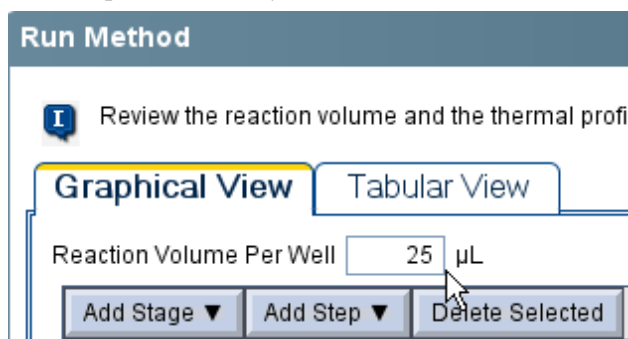

Figure 13 Reaction Volume Per Well
4. In either the Graphical View or Tabular View tab (Figure 13), verify that the reaction volume per well is 25 μL .